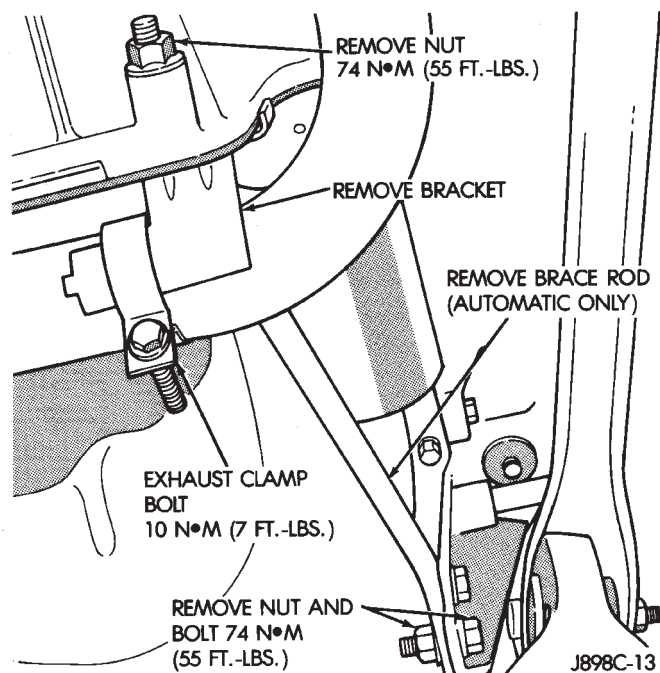

Fig. 3 Exhaust Clamp and Brace Removal—2.5L XJ
- (1) Disconnect negative cable from battery.
- (2) Remove exhaust clamp from bracket (Fig. 3).
- (3) Remove nut and bolt from forward end of brace rod (automatic transmission only).
- (4) Remove nut from lower end of brace rod (automatic transmission only).
- (5) Remove brace rod and bracket (automatic transmission only).
- (6) Remove nut, bolt and bracket from bell housing (manual transmission only).